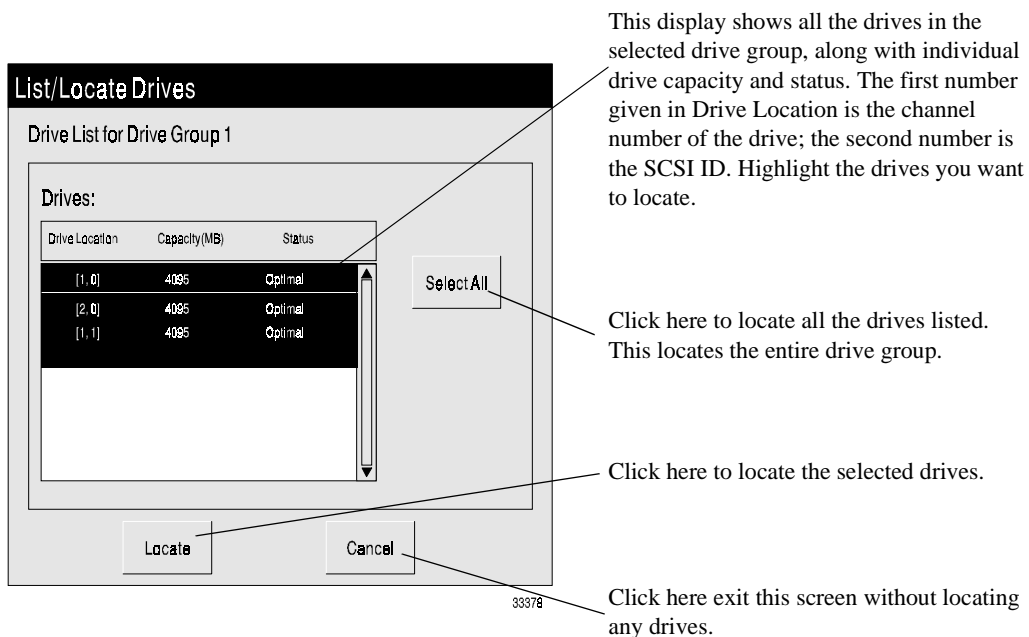

Figure 12. List/Locate Drives Screen
5. A screen like Figure 12 appears. Select the drives you want to locate (click Select All if you want to locate all the drives in the group), then select Locate.